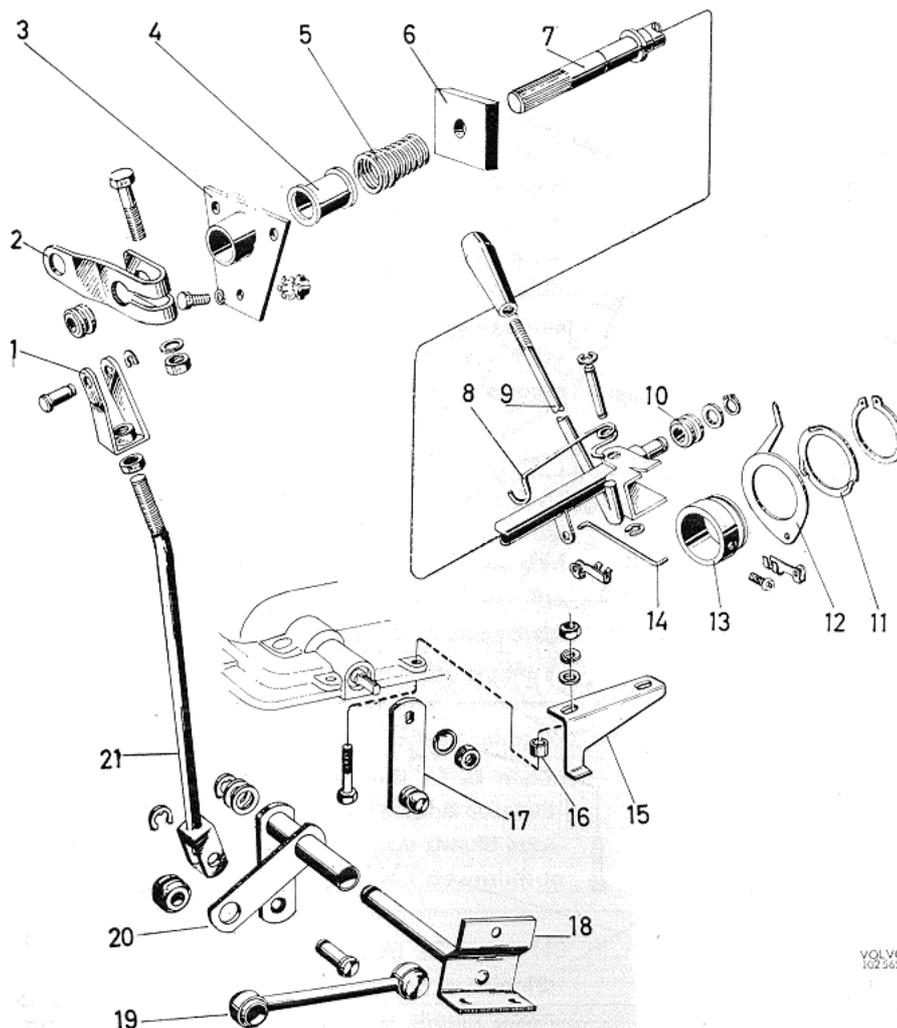

Fig. 82. Selector controls, P 120, late prod.
1. Disconnect the control rod (21, Fig. 82) from the control lever (2) on the operating rod (7) and from the lever arm (20). Remove the link rod (19). Disconnect and remove the levers.